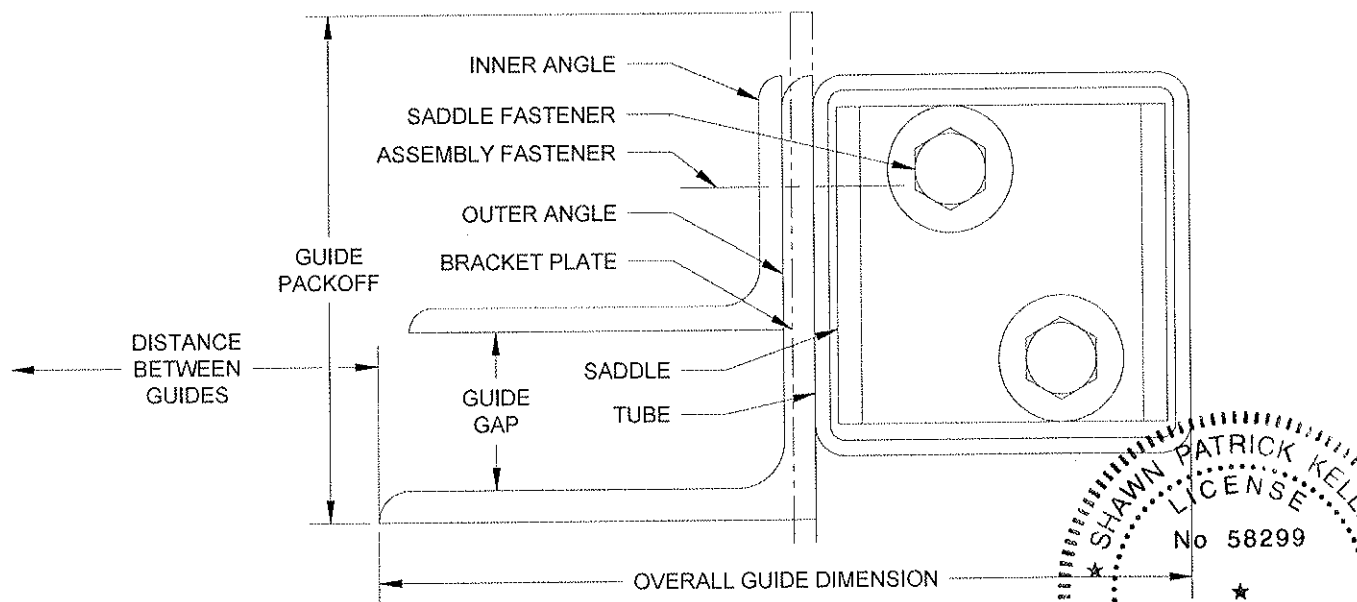

Figure 5.10 – Between Jambs Two-Angle Guide Mounting to Tubes
3. Determine where the fascia of the door will be located with respect to the header/lintel (if one exists) and the jamb. See *Figure 5.10*.